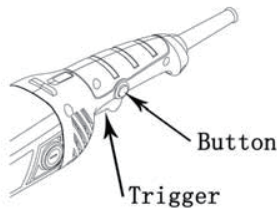

Fig.7
- 2)Start the tool by pressing the button of on/off switch, then pressing the trigger of on/off switch down slightly.(See fig.7)